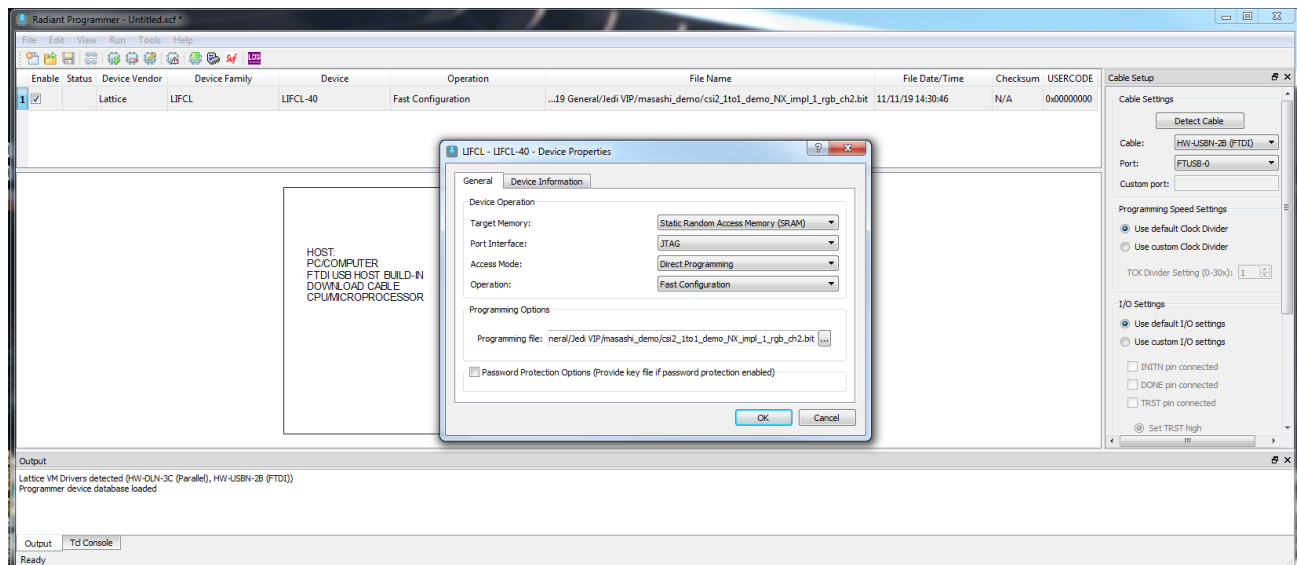

Figure 3.4. Entering Programming Mode
- Double click on the Operation field and select the appropriate programming mode. In this example, Fast Configuration of the SRAM array through JTAG is selected (Figure 3.4).